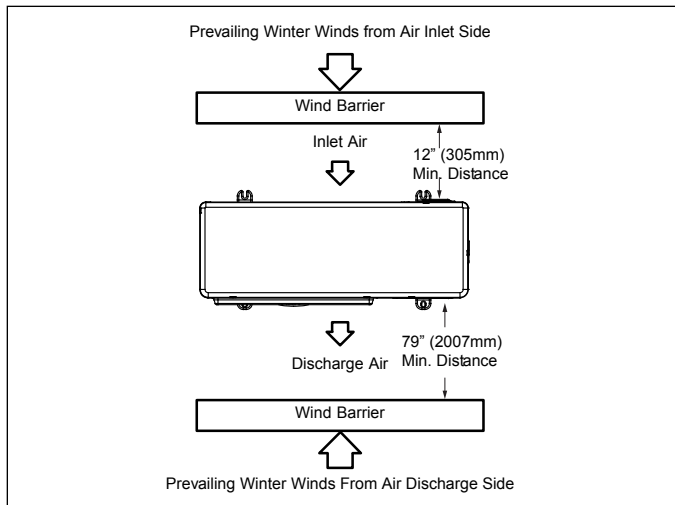

Figure 23. Wind Barrier
- When prevailing winds are from the air inlet side, then position the wind barrier a minimum of 12 inches (305 mm) from the unit as illustrated in “Figure 23. Wind Barrier”